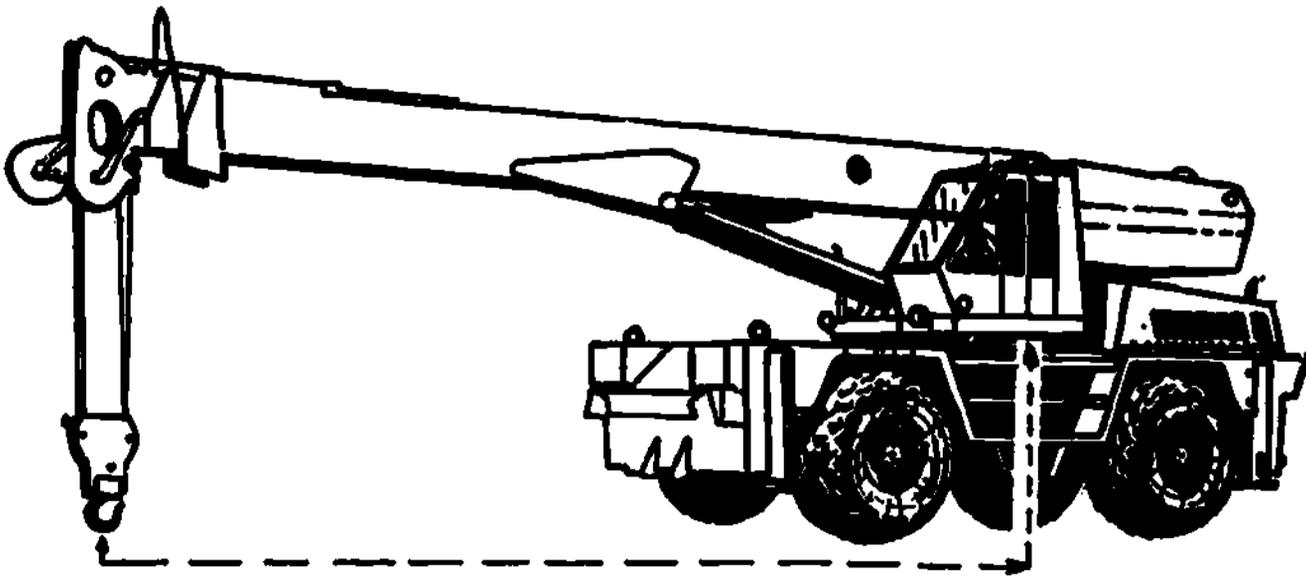

Fig 1-16. Operating radius.
- a. Operating radius is the horizontal distance from the center of the crane's turntable to the center of the hook block suspended over the load. See figure 1-16.